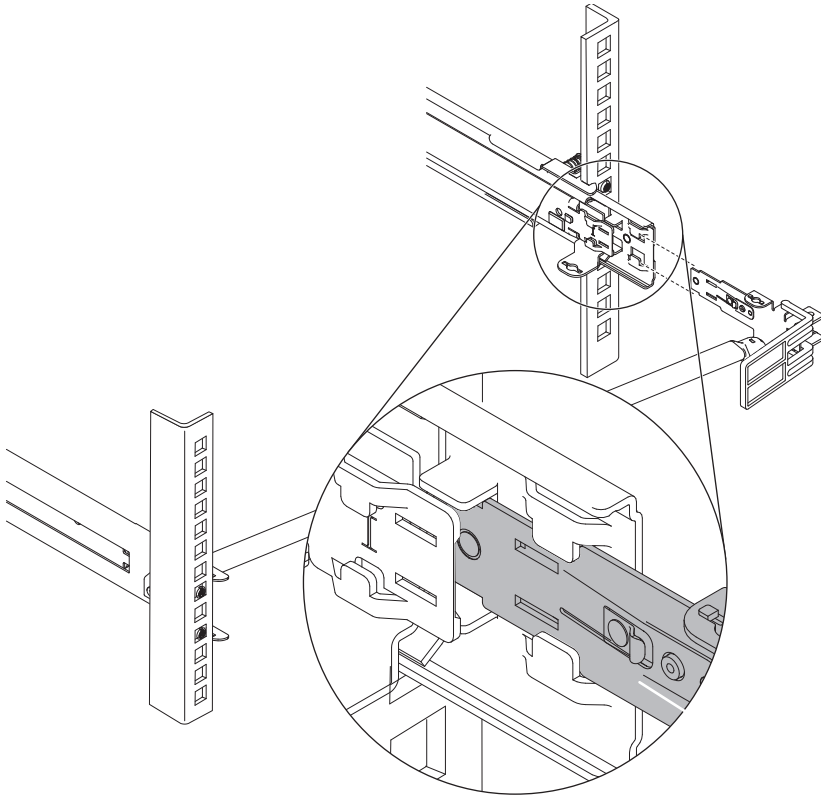

Figure 22. Connecting the stop bracket to the slide rail
3. Connect the stop bracket to the slide rail, as shown in Figure 22 on page 28.